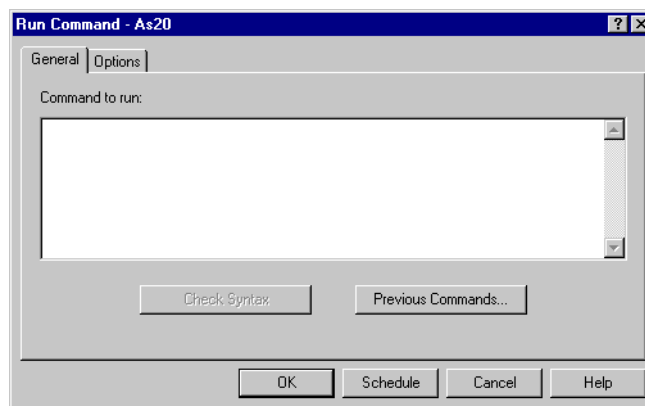

Figure 26. Run Command window
4. Right-click the selected system or group, and select **Run Command**. Notice that the window that you see does not display the fields for a name or description as shown in Figure 26. You cannot set a sharing option, the Sharing tab is not available.